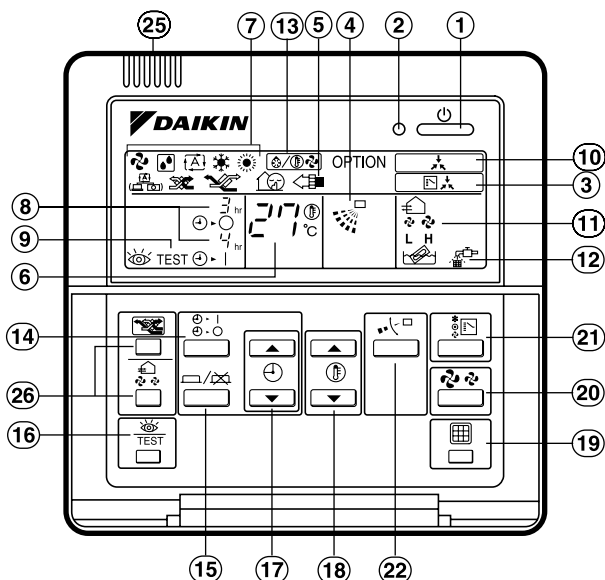

Fig.1
- Figure 1 shows the remote controller which is opened the cover.